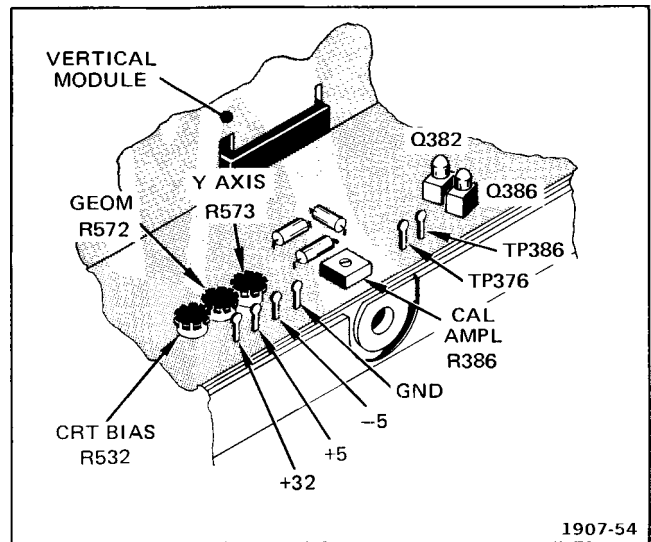

Fig. 6-3. Crt and calibrator adjustment locations.
d. Set FOCUS and ASTIG controls for well-defined spot. If spot is not displayed, adjust Crt Bias adjustment, R532, (see Fig. 6-3) for a visible spot. Then, adjust FOCUS and ASTIG controls.
d. ADJUST—Y AXIS, R573 (see Fig. 6-3), to align center time mark with center vertical graticule line.
b. ADJUST—Geometry, R572 (see Fig. 6-3), for minimum bowing of time marks.
b. Connect shorting jumper between TP376 and TP386 (see Fig. 6-3). If output voltage does not read between +297 mV and +303 mV, continue with step c.
c. ADJUST—Calibrator Amplitude, R386 (see Fig. 6-3) for +300 mV.